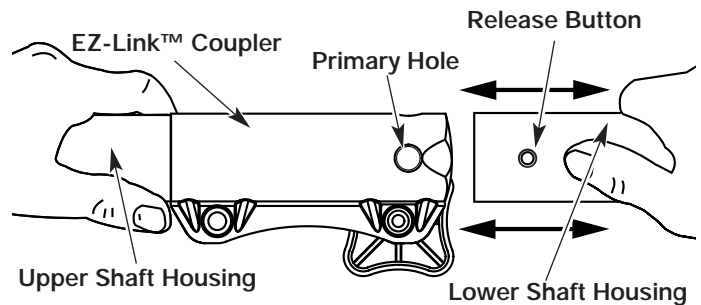

Fig. 10
3. While firmly holding the upper shaft housing, pull the add-on straight out of the EZ-Link™ coupler (Fig. 10).
2. While firmly holding the add-on, push it straight into the EZ-Link™ coupler (Fig. 10).